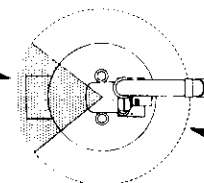

Figure 4
- The location selection must provide clearances for servicing and proper operation of the water heater. Figure 4.